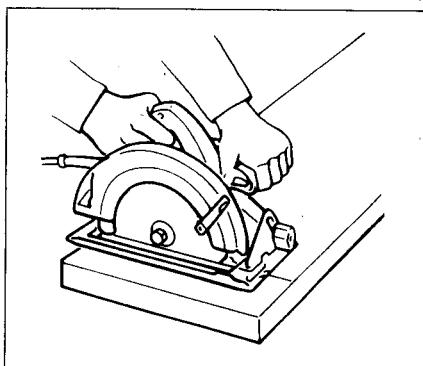
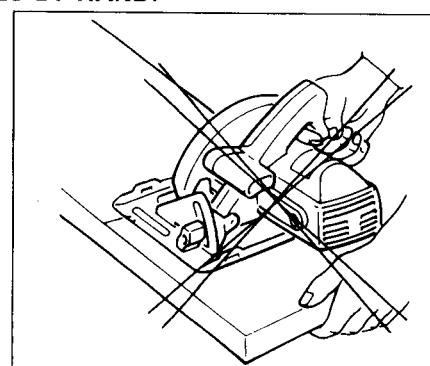

Fig. 5
Fig. 6
- 15. Place the wider portion of the saw base on that part of the workpiece which is solidly supported, not on the section that will fall off when the cut is made. As examples, Fig. 5 illustrates the RIGHT way to cut off the end of a board, and Fig. 6 the WRONG way. If the workpiece is short or small, clamp it down. DON'T TRY TO HOLD SHORT PLACES BY HAND!**